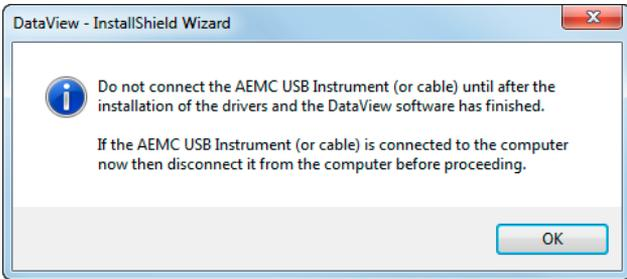

Figure 7-3
- If the feature selected for installation requires the use of a USB port, a warning box will appear, similar to Figure 7-3. Click **OK**.